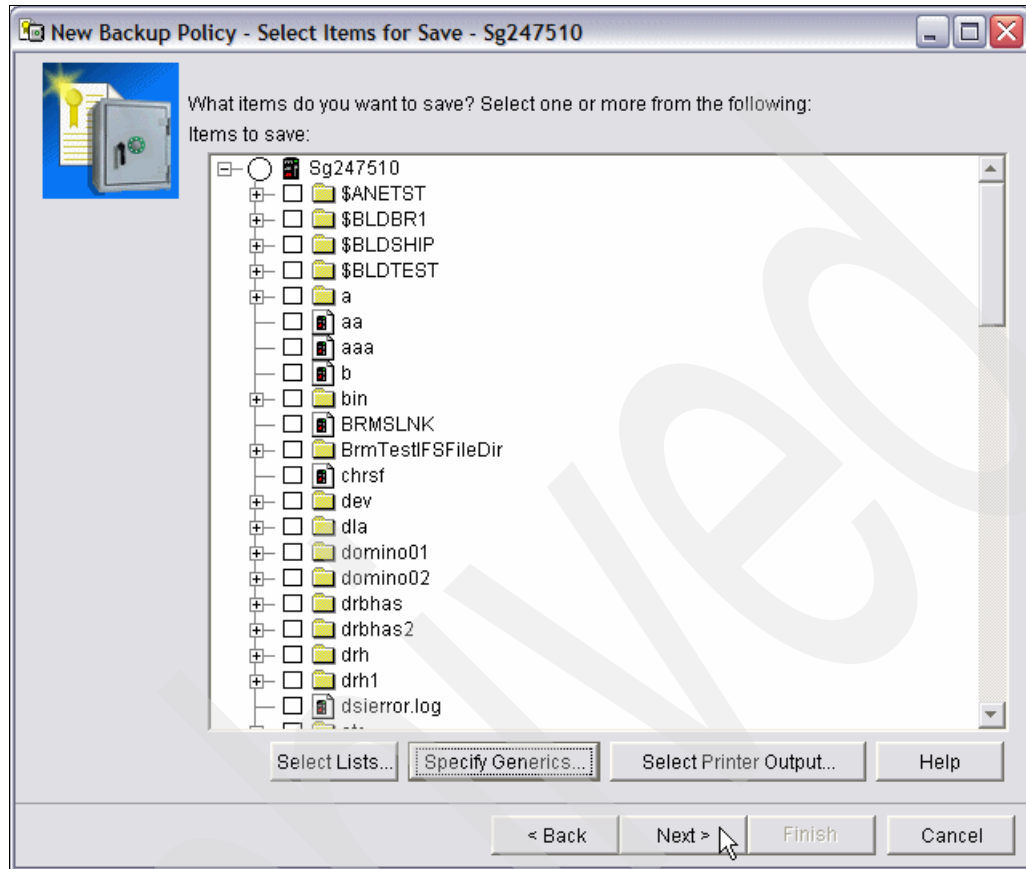

Figure 6-54 New Backup Policy - Select Items for Save
12. We are back at the Select Items to Save window (Figure 6-54).